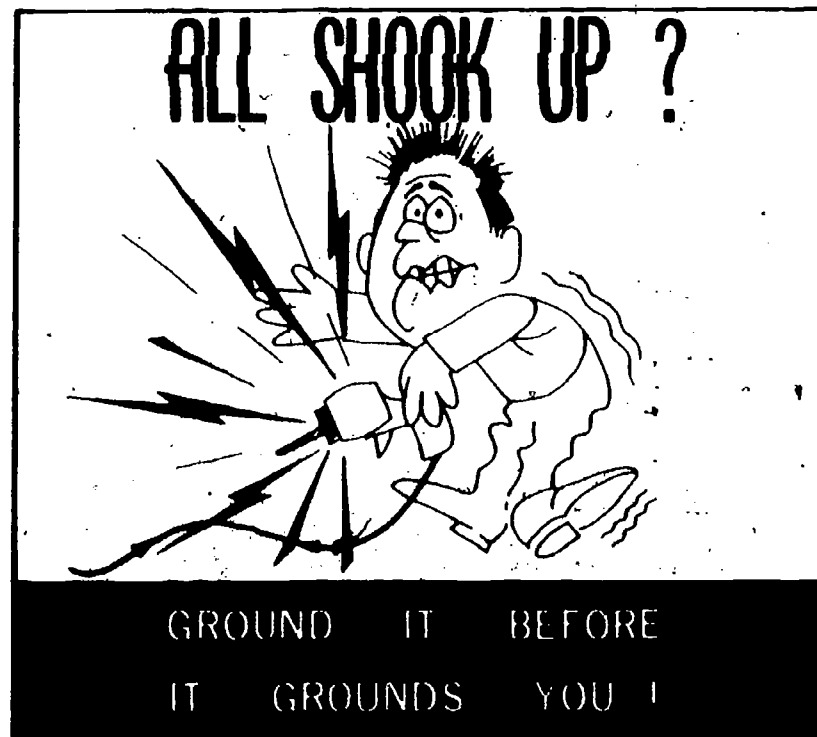

Fig 3-1. Ground the generator set.
- Insure equipment is GROUNDED. Whenever you are working on any type of electrical equipment, this equipment should be grounded (fig 3-1). If it is not grounded, the equipment should not be operated, since it is unsafe for you and any others who may venture to use it.